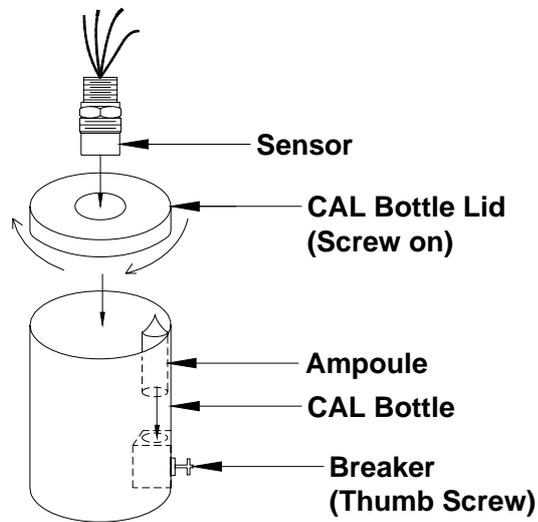

Figure 16 – Breaker Bottle Operation
- Place H₂S ampoule (50% of scale is recommended) into a breaker bottle; do not place the breaker bottle over the sensor (figure 16) until display shows flashing AC.